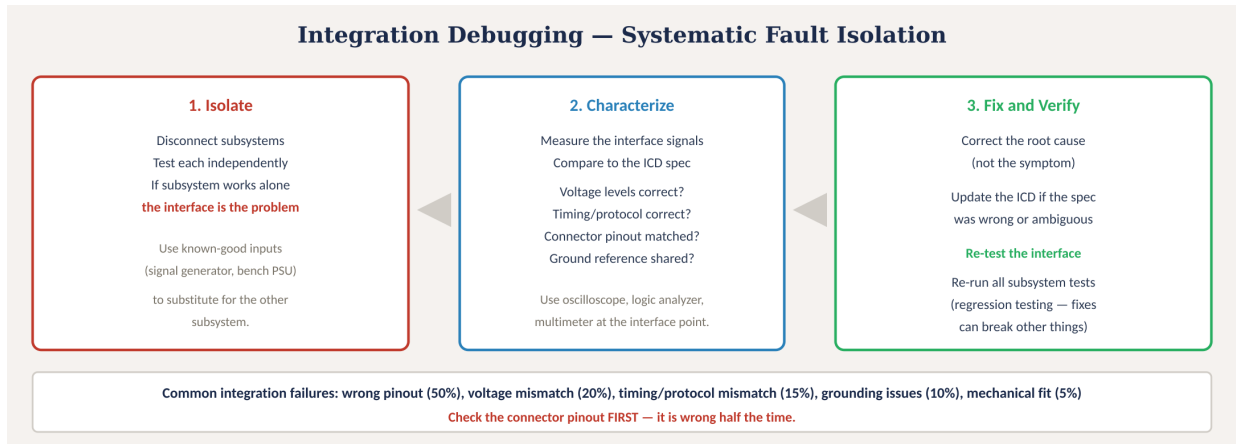

Figure 20.2: Fault isolation strategy: systematic disconnection to identify the failing subsystem or interface.
Step 2: Isolate. Using the fault isolation strategy (Figure 20.2), disconnect subsystems one at a time. The last one disconnected is the suspect. Or substitute a known-good signal to bypass suspect components.